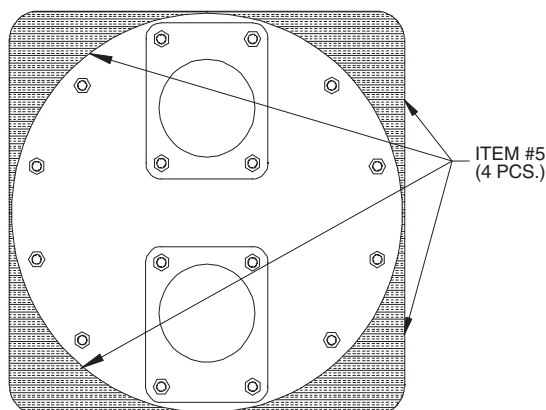

Fig. 13 — Outside Tubesheet Face (Fully Insulated)
Step 1 — Insulate End Tubesheets (Outside) — Insulate the outside face of one of the end tubesheets using four pieces of Item 5. Apply adhesive to insulation and tubesheet as directed by adhesive manufacturer. Cover tubesheet face as shown in Fig. 13. Repeat for the opposite end tubesheet.